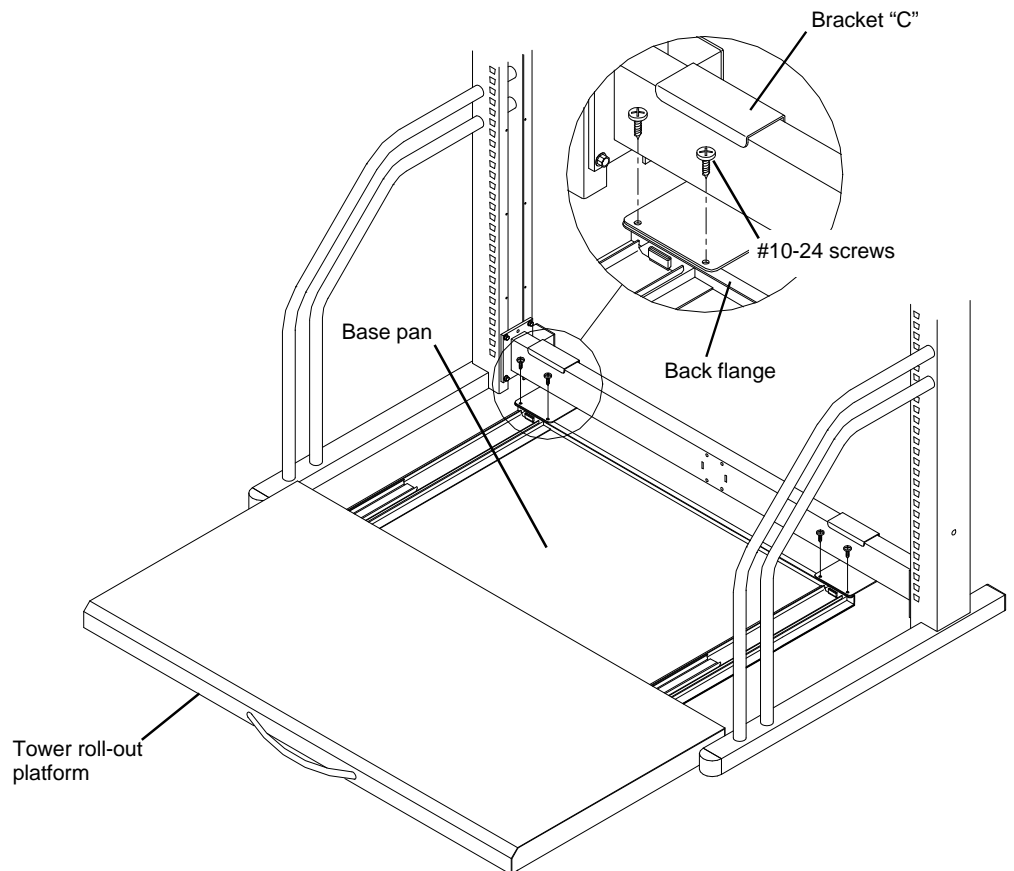

Figure 4
6. Position the Bracket over the back flange on the Base Pan and align the holes in each. See **Figure 4**.
7. Fasten the Brackets in place using the #10-24 screws provided. See **Figure 4**. There are two Brackets on each 24" through 72" Tower Roll-out and one with each 12" Tower Roll-out.